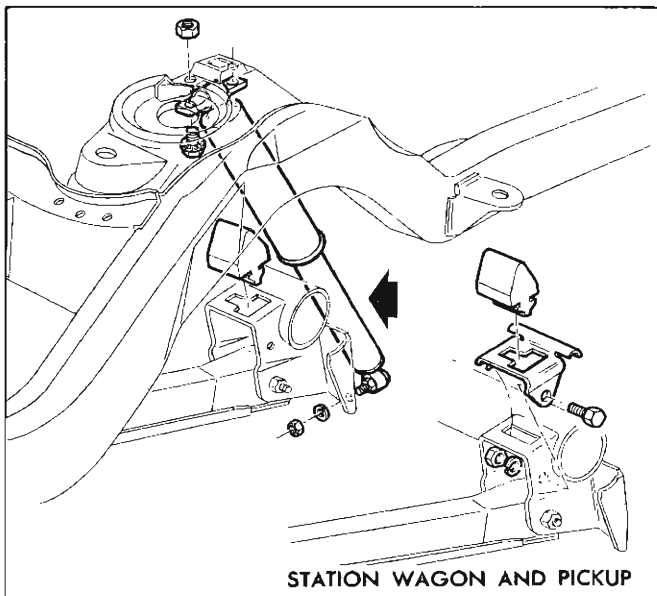

Fig. 16—Shock Absorber Mounting—Exploded View
2. Disconnect shock absorber at upper mounting bracket by removing the two retaining bolts. Refer to Figure 16 for shock absorber mounting details. (Chevelle components shown as typical.)